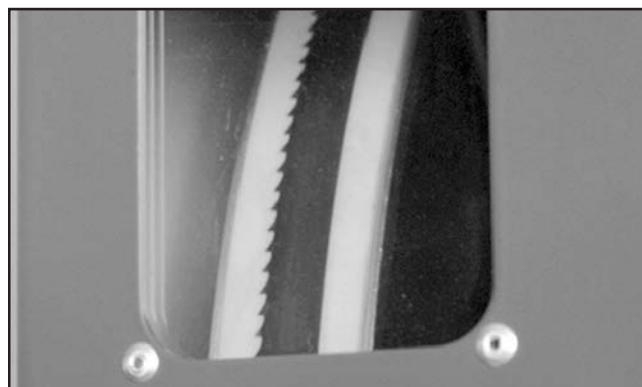

Figure 44. Example of blade, viewed through tracking window.
2. Observe blade tracking path through clear tracking window on right edge of bandsaw (see **Figures 44–45**).